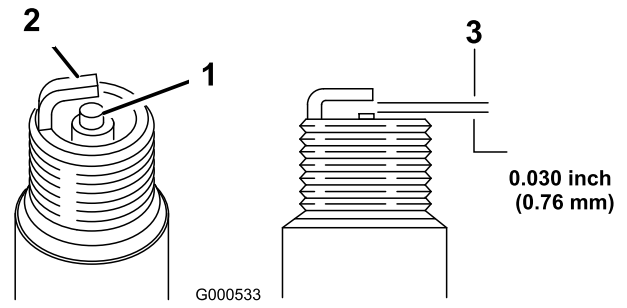

Figure 33
- Set the gap on the plug to 0.030 inch (0.76 mm) (Figure 33).